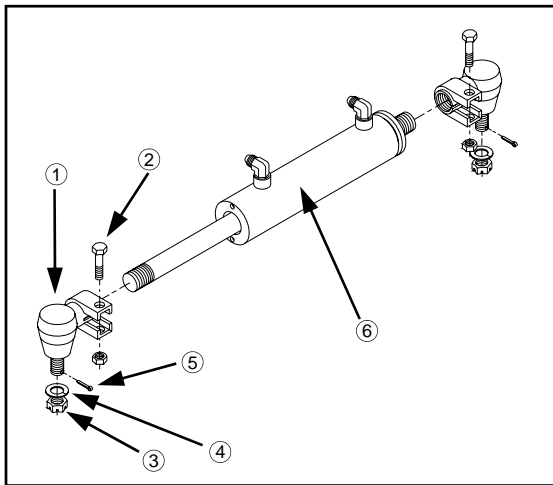

FIG 8.54
1. Remove cotter pin (fig. 8.54, item 5), castle nut (fig. 8.54, item 3), and lock washer (fig. 8.54, item 4).
2. Loosen lock collar bolt and nut (fig. 8.54, item 2).
3. Lightly tap swivel assembly (fig. 8.54, item 1) out of steering arm.
5. Screw swivel assembly in or out on steering cylinder (fig 8.54, item 6) until the treaded part lines up with steering arm.